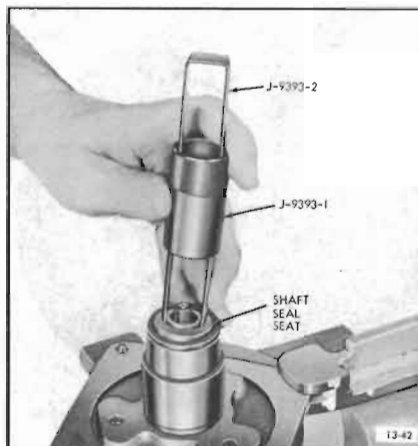

Figure 13-42—Removing or Installing Shaft Seal Seat
6. Disassemble shaft seal seat (see Figure 13-42) by use of Seal Seat Remover and Installer (J-9393). Grasp flange of shaft seal seat with tool and pull straight out.
3. Lubricate shaft seal seat with 525 viscosity oil, mount seat on Seal Seat Remover and Installer (J-9393) and reassemble into hub of front head (see Figure 13-42).